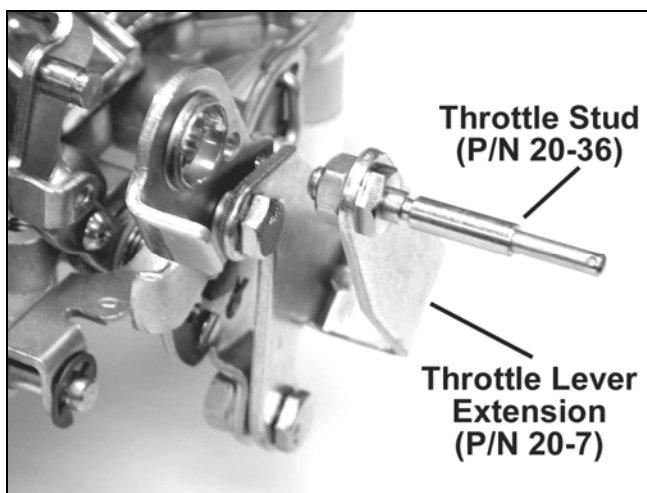

Figure 4—Chrysler applications
1. Unless you are replacing an existing Holley carburetor (which already has a lever extension arm), you may need to purchase and install a throttle lever extension (Holley P/N 20-7) on the carburetor. Remove the throttle stud and nut from the original carburetor. You can purchase a new stud from your Holley dealer (Holley P/N 20-36). Install the stud in the throttle extension lever (Figure 4).